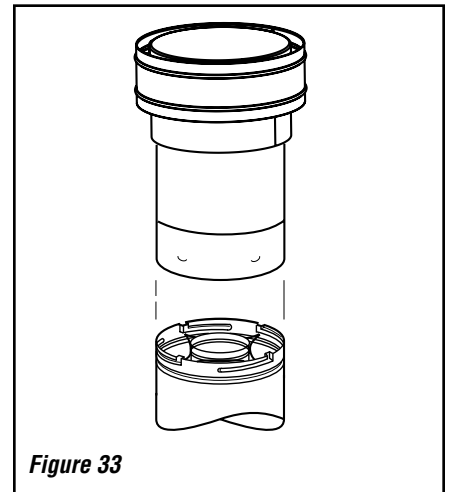

Figure 33
K. Install the vertical termination - The final step involves installation of the SV4.5CGV-1 Vertical Termination. Extend the vent sections to the height as shown in the "Vertical vent termination section" on **Page 6**. The SV4.5CGV-1 Vertical Termination (**Figure 33**) installs in the exact same fashion as any other **Secure Vent®** section. Align the termination over the end of the previously installed section, adjusting the radial alignment until the four locking dimples of the termination are aligned with the inlets of the four incline channels of the last vent section. Push the termination down until it fully engages, then twist the termination clockwise running the dimples down and along the incline channels until they seat at the end of the channels.